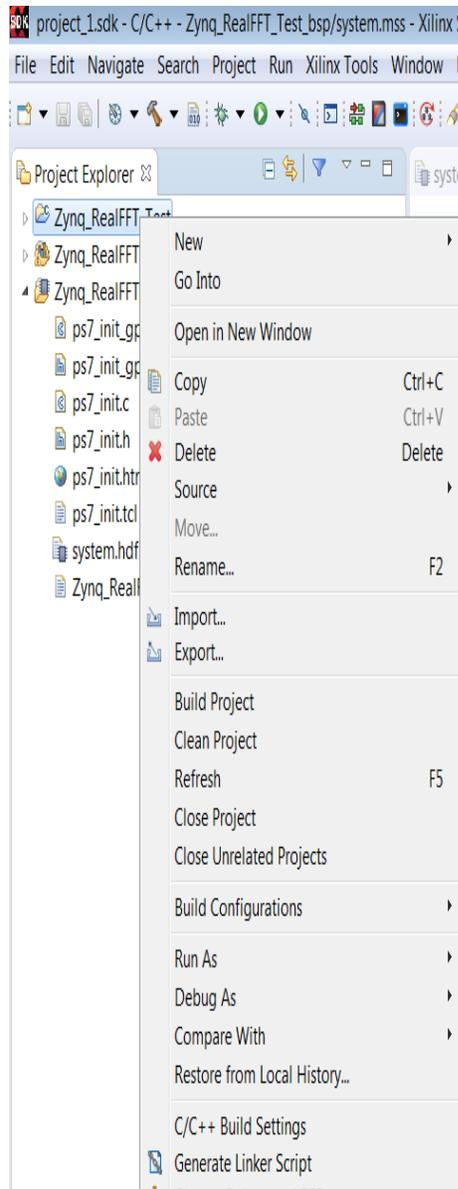

Figure 10-42: Specify C/C++ Build Settings
- a. Right-click the `zynq_realfft_test` project in the Project Explorer pane and select **C/C+ Build Settings** (Figure 10-42).